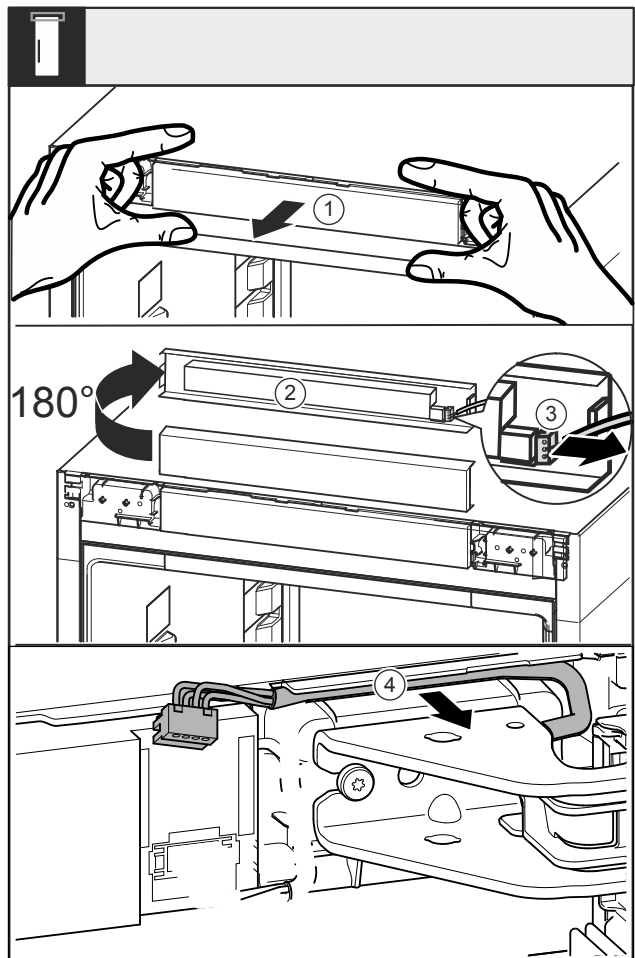

Fig. 17
- ▶ Loosen the trim Fig. 17 (1) towards the front.
- ▶ Turn the trim Fig. 17 (2) upwards by 180°.
- ▶ Push the locking tab on the plug Fig. 17 (3) backwards and remove the plug carefully.
- Release the cable over the swap bearing block Fig. 17 (4) from the guide.